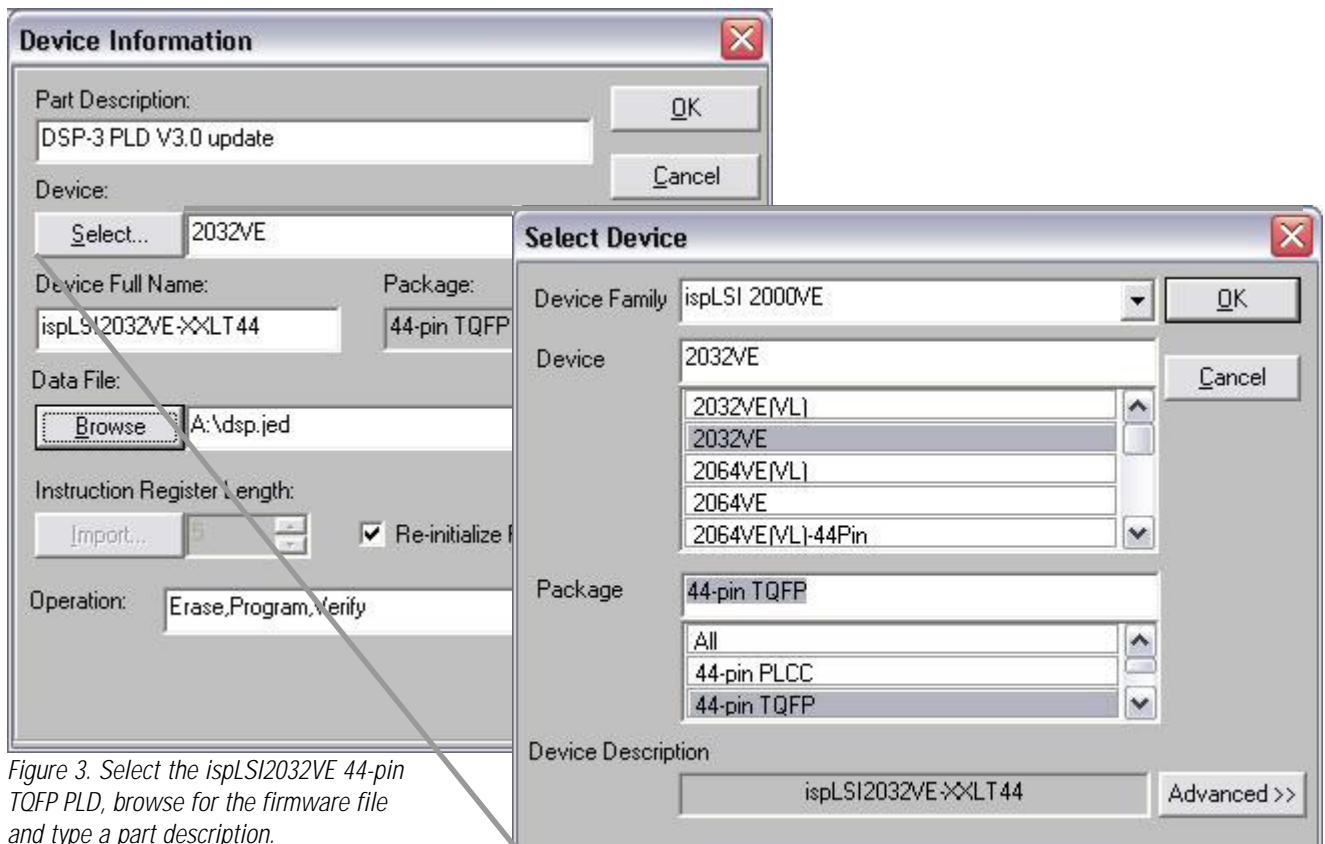

Figure 3. Select the ispLSI2032VE 44-pin TQFP PLD, browse for the firmware file and type a part description.
3. Type an appropriate description in the **Part Description** box, then click **Select** (Figure 3). In the **Device Family** box select **ispLSI 2000VE**. Click **2032VE** in the **Device** list and **44-pin TQFP** in the **Package** list. Click **OK**.